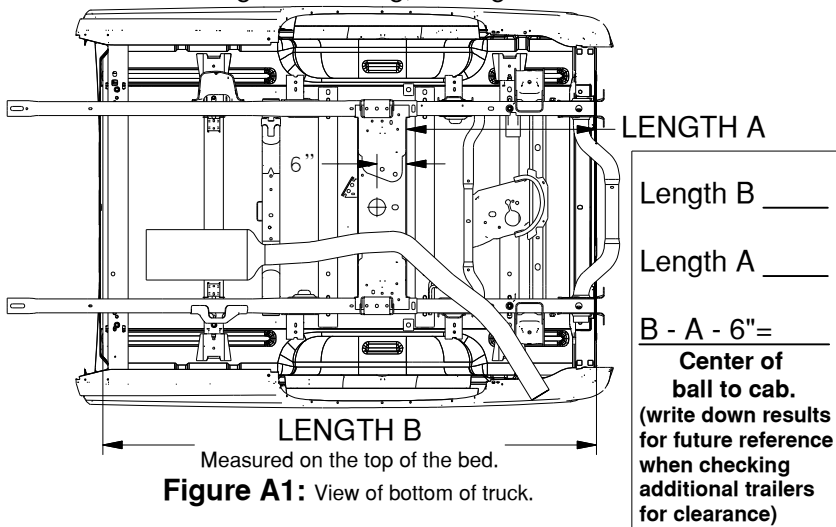
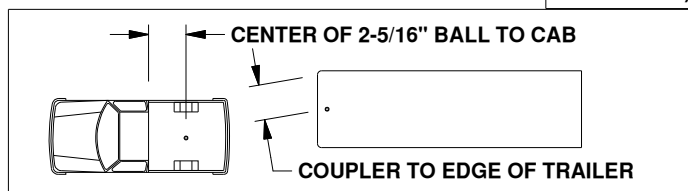

Figure A1: View of bottom of truck.
Figure A2: Truck and trailer diagram
1. **Determine cab clearance:** Under the truck bed, measure from the rear most edge of the C-channel frame crossmember (over the axle) to the end of the bed, see figure A1, Length A. Next, inside the bed, measure the length of the bed from the rear edge to the front, see figure A1, Length B. Subtract the crossmember measurement (length A) from the bed measurement (Length B). Then subtract an additional 6 inches. This will give you the amount of clearance you have between the turnoverball location and the cab. Measure the distance from the center of the coupler to the farthest forward corner point of the trailer. Compare this distance to the measurement from the center of the ball to the cab. These measurements will allow you to see how much clearance you will have between the cab and the trailer while towing and turning, see figure A2.